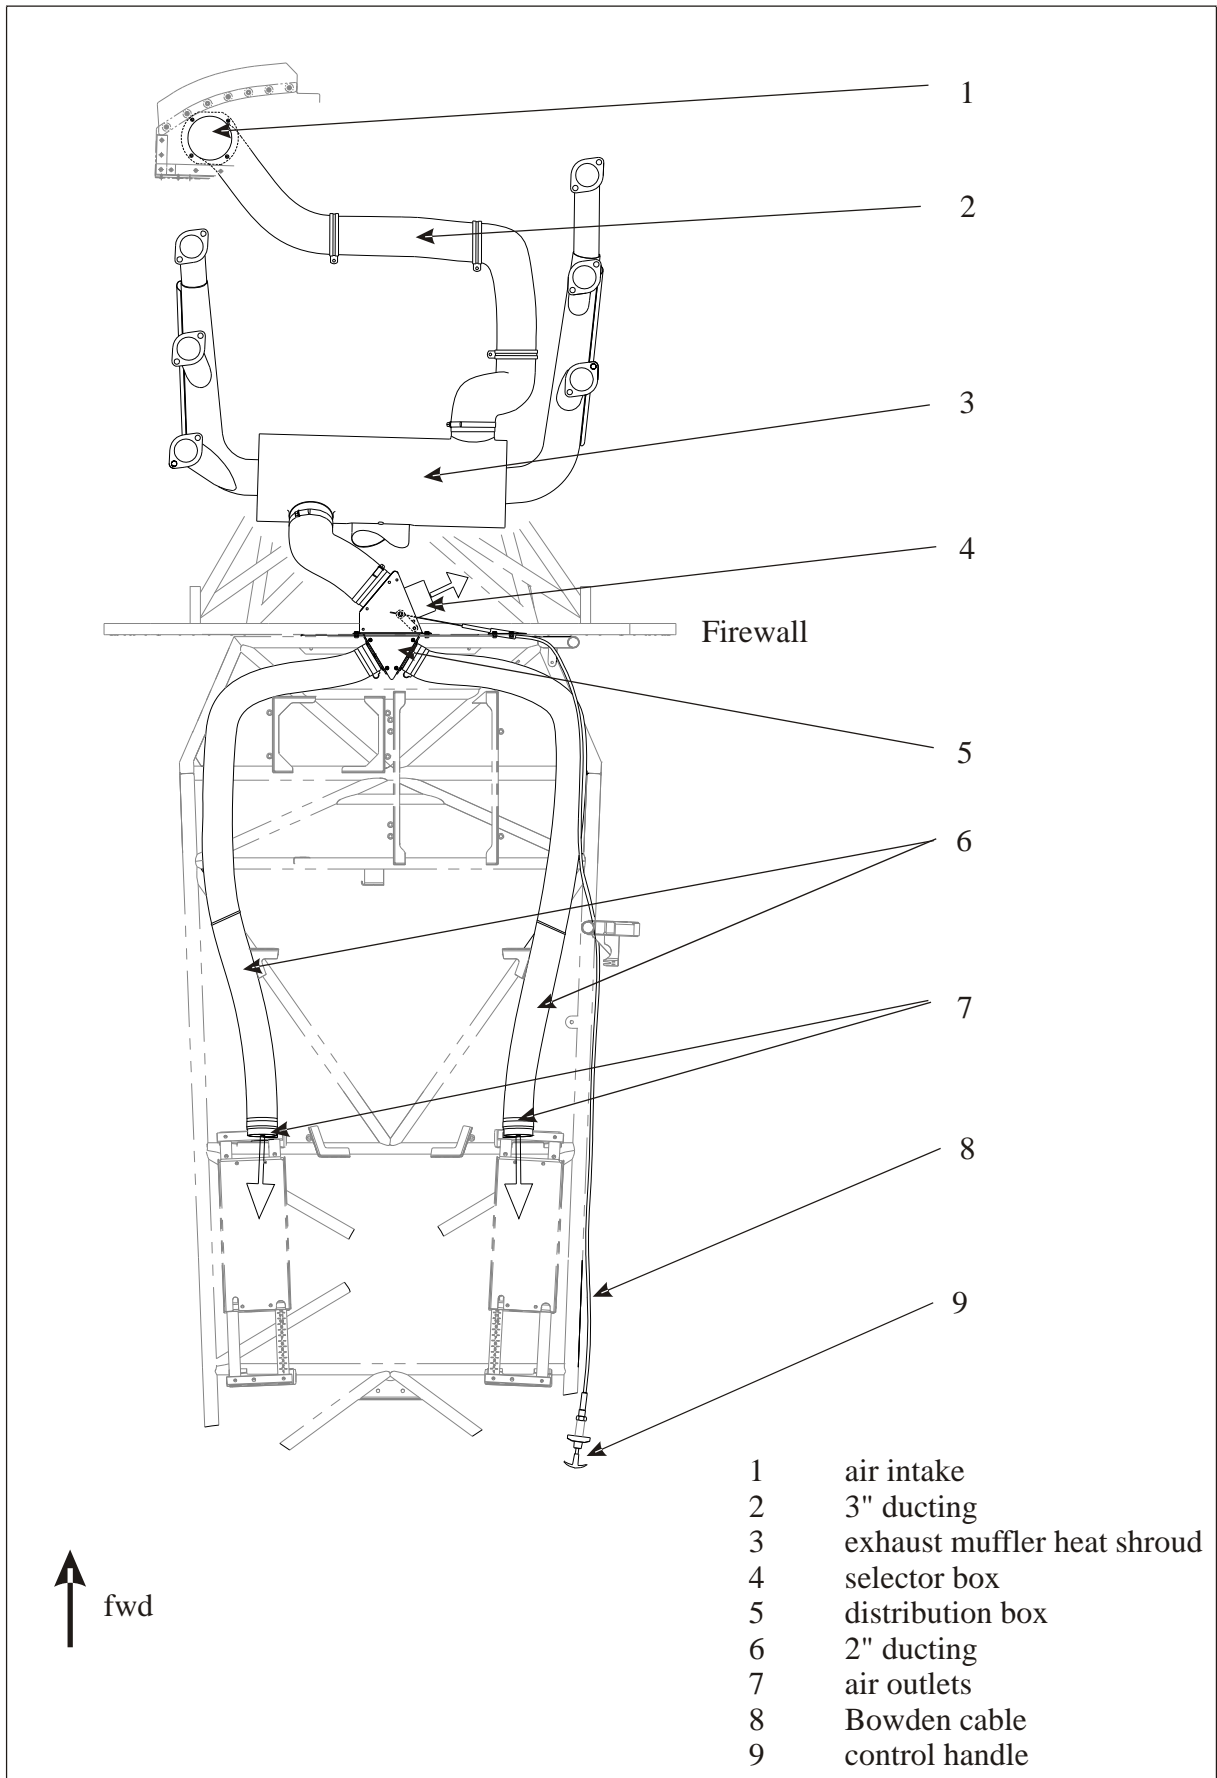

Figure 1
On the left front engine baffle a 3" air intake (1, Figure 1) with screen is positioned. From there fresh air is routed through a 3" ducting (2) to the exhaust muffler heat shroud (3), where it is heated up. An inlet box (4) is placed on the engine side of the firewall. Using the control handle (9) the warm air can there be guided into the cockpit or dumped overboard. Turning the handle to the right as far as it will go fixes the Bowden cable (8). A distribution box (5) is located on the aft side of the firewall. The distribution box incorporates the flanges for the 2" ducting (6) to the air outlets (7) at the pilot's feet.